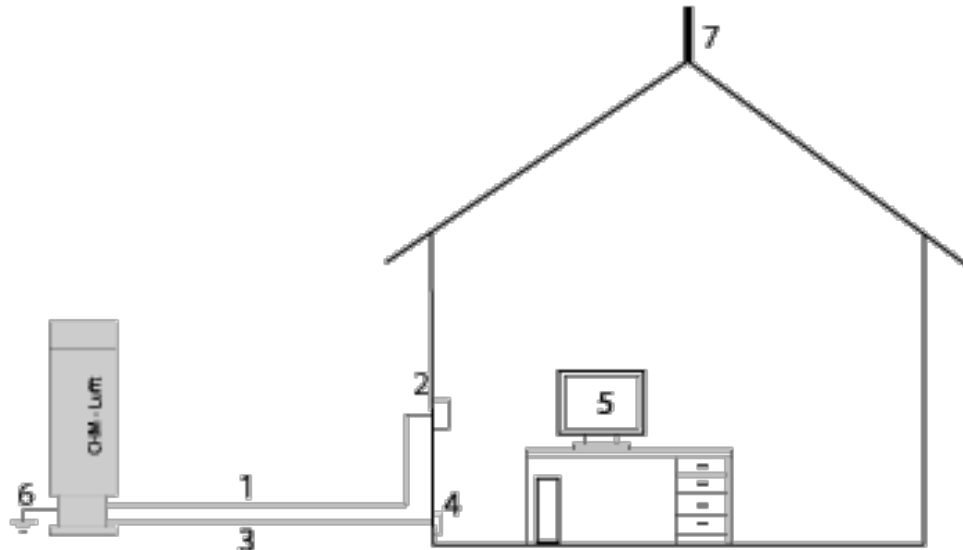

Figure 12 Schematic sketch of the electrical installation.
2. Grounding cable 10 mm² (1-pin, green-yellow), standard length 2.6 m, for the grounding connection (see Figure 12). The grounding cable must be kept as short as possible